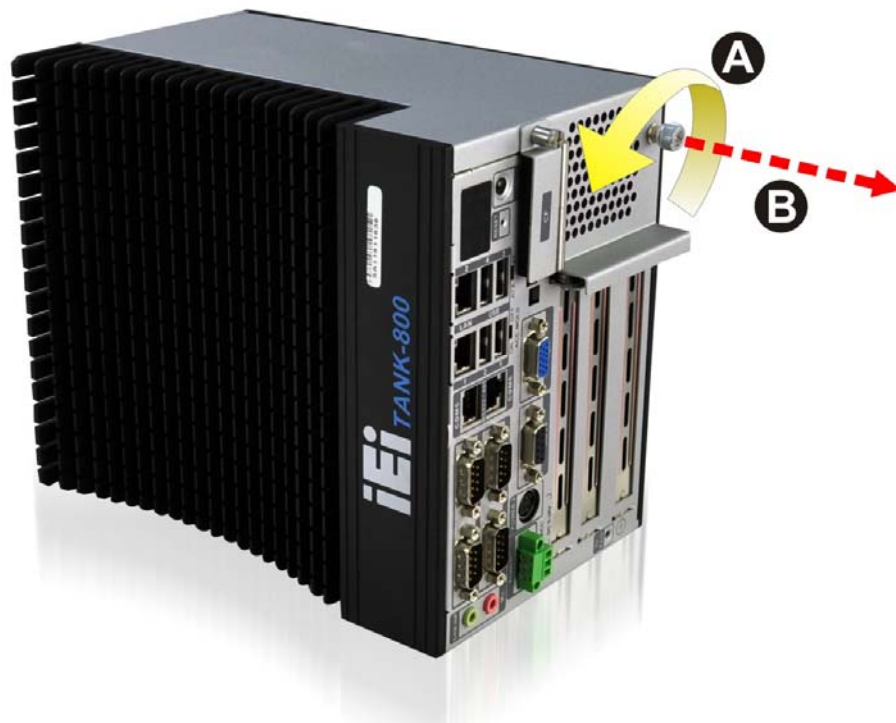

Figure 3-4: Unscrew the Cover
**Step 1:** Loosen the thumbscrew, slide the cover inwards (**Figure 3-4**), and then lift the cover up gently.